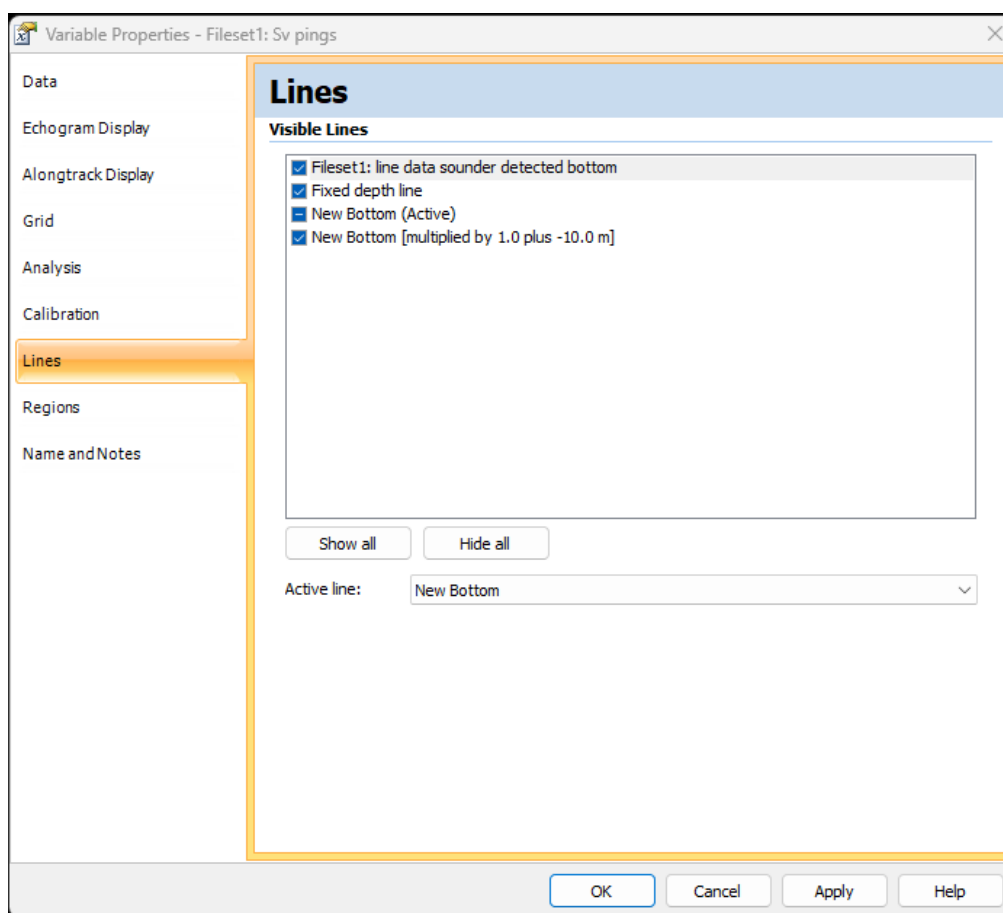

Figure 26. The Lines page of the Variable Properties dialog box.
43. Click the **Lines** tab (see Figure 26).